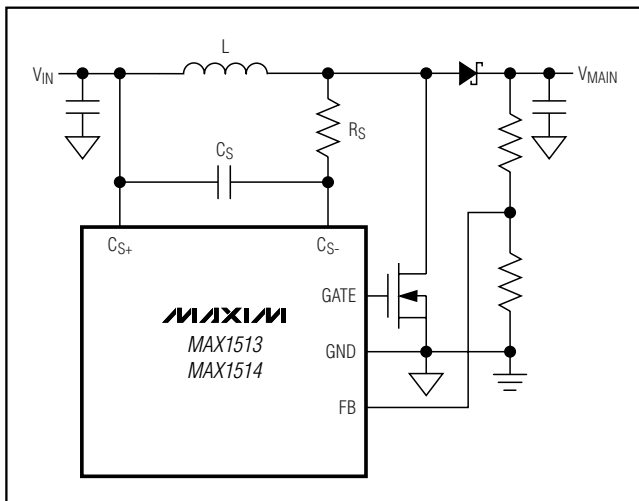
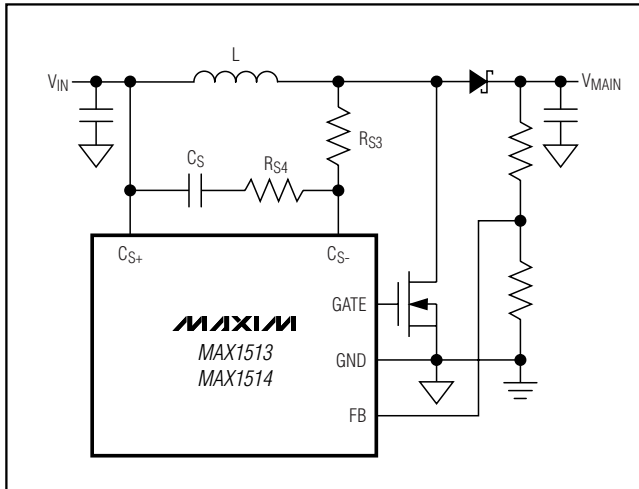

Figure 8. Lossless Current Sensing with 80mV < V_{SENSE} < 100mV
Figure 10. Lossless Current Sensing with $V_{SENSE} < 80\text{mV}$
4) Compare the calculated sense voltage with the minimum value of the current-limit threshold in the *Electrical Characteristics* (100mV). If the sense voltage is between 80mV and 100mV, use the current-sense configuration in Figure 8 with the calculated C_S and R_S above.
6) If V_{SENSE} is less than 80mV, the current-feedback signal is low relative to the current-limit threshold. Use the Figure 8 configuration, or, if good current-limit accuracy is desired, use the optional current-sense configuration in Figure 10 to increase the amplitude of the sense signal. Calculate R_{S3} and R_{S4} :
Because V_{SENSE} would be between 80mV and 100mV, the circuit in Figure 8 should be used. The closest 1% standard value for R_S is 909Ω.
Because V_{SENSE} would be much less than 80mV , the circuit in Figure 10 can be used to improve the current-limit accuracy. Calculate R_{S3} and R_{S4} :